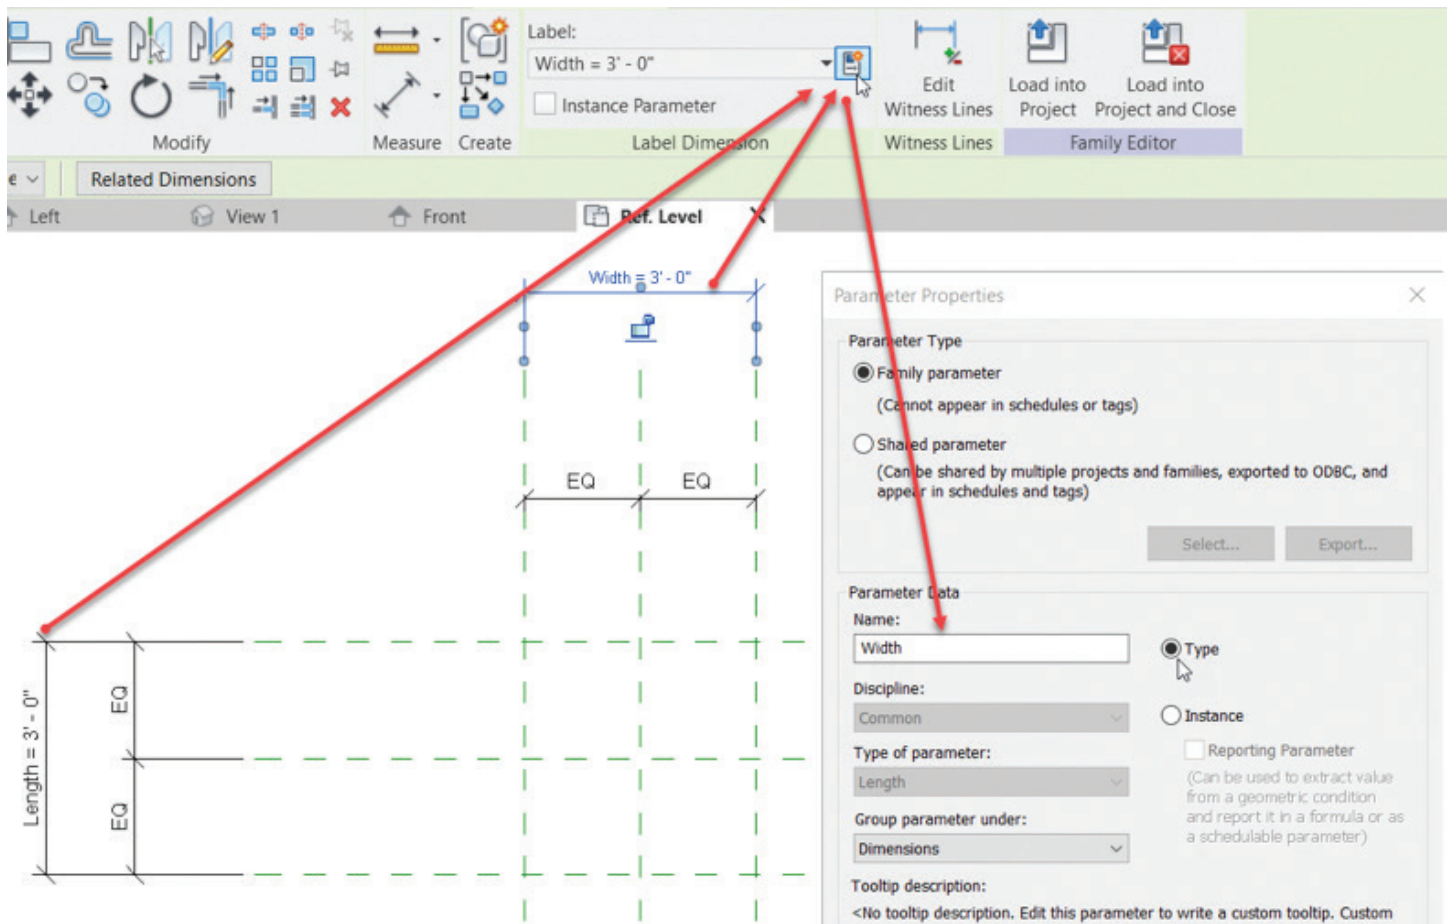

Figure 1.
4. Offset the reference planes 1'-6" right and left then above and below as shown in Figure 1.